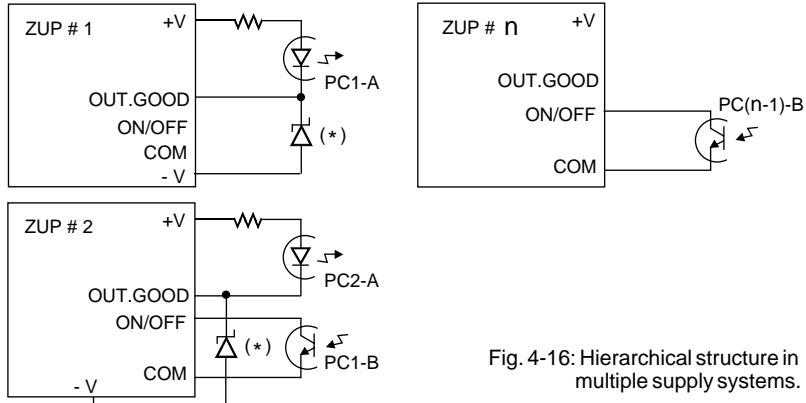

Fig. 4-16: Hierarchical structure in multiple supply systems.
2. Hierarchical structure in multiple supply systems: It is possible to define a hierarchy in multiple supply systems by enabling any $N+1$ unit by the Output Good signal of the N unit. In this structure, failure of the N unit will cause all the following units to be disabled. Refer to Fig 4-16 for typical connections diagram.